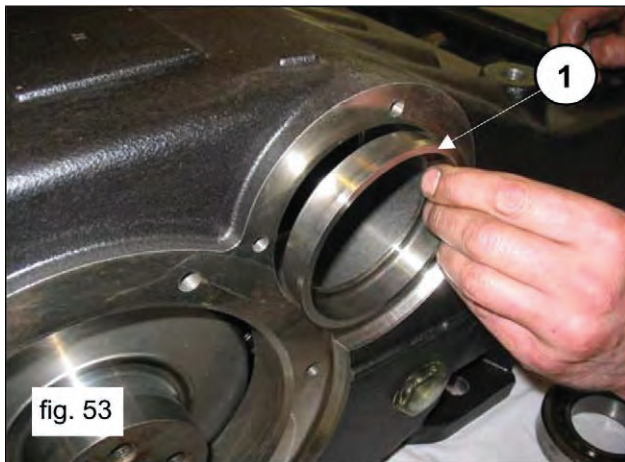
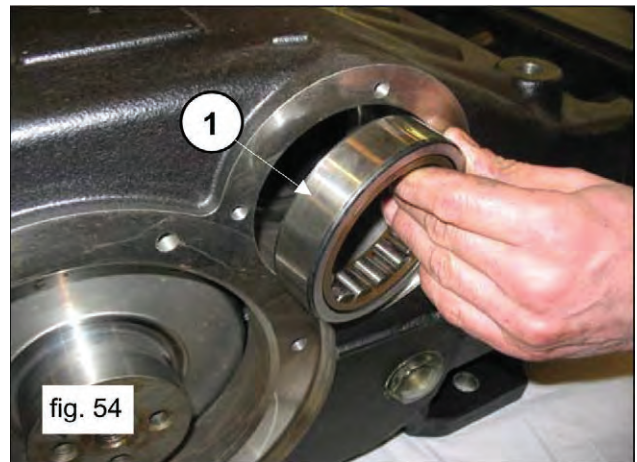

fig. 53
fig. 54
From one side of the casing, insert the bearing lubrication bushing (pos. 1, fig. 53) and an external bearing ring (pos. 1, fig. 54) using a pad and a mallet or striking hammer.